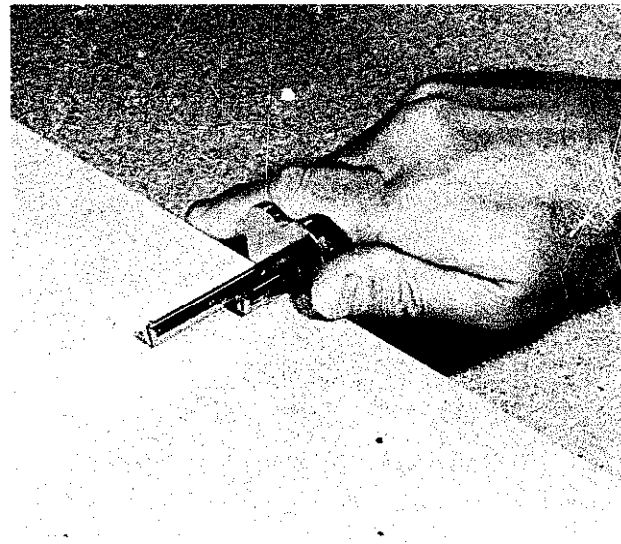

Fig. 4-9 Using the metal mortise gauge
6. Apply the gauge to the board in the same manner as described for the marking gauge. See figure 4-9.